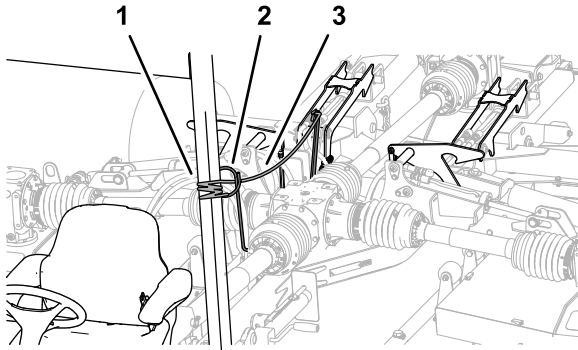

Figure 38
3. Pull and hold the deck-lock rope (Figure 38).